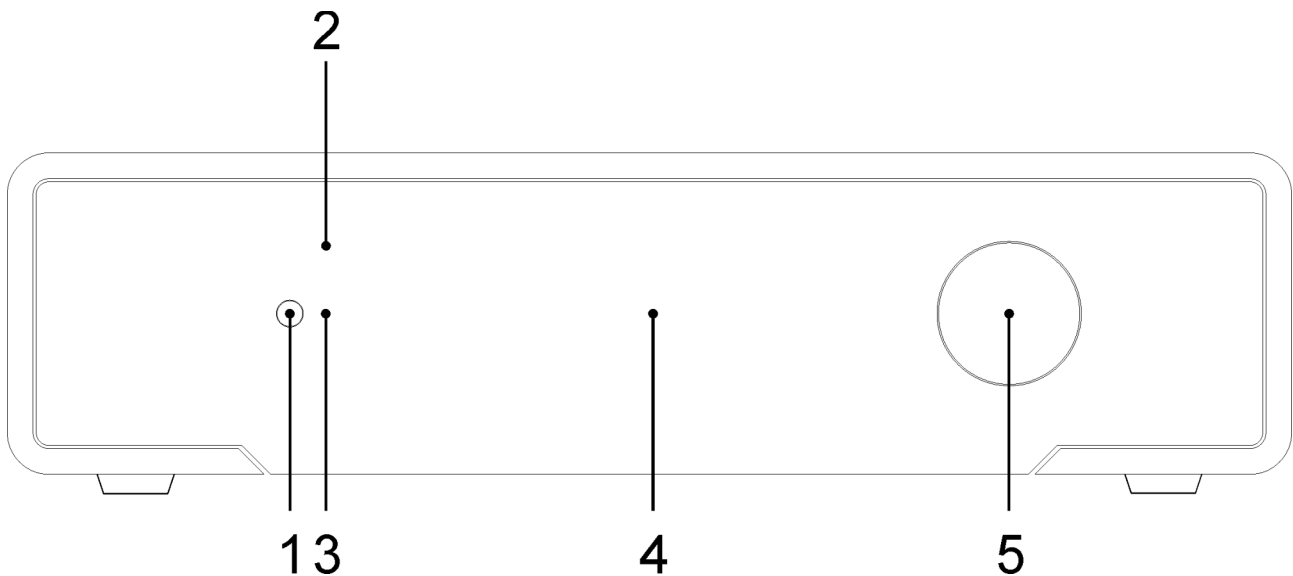
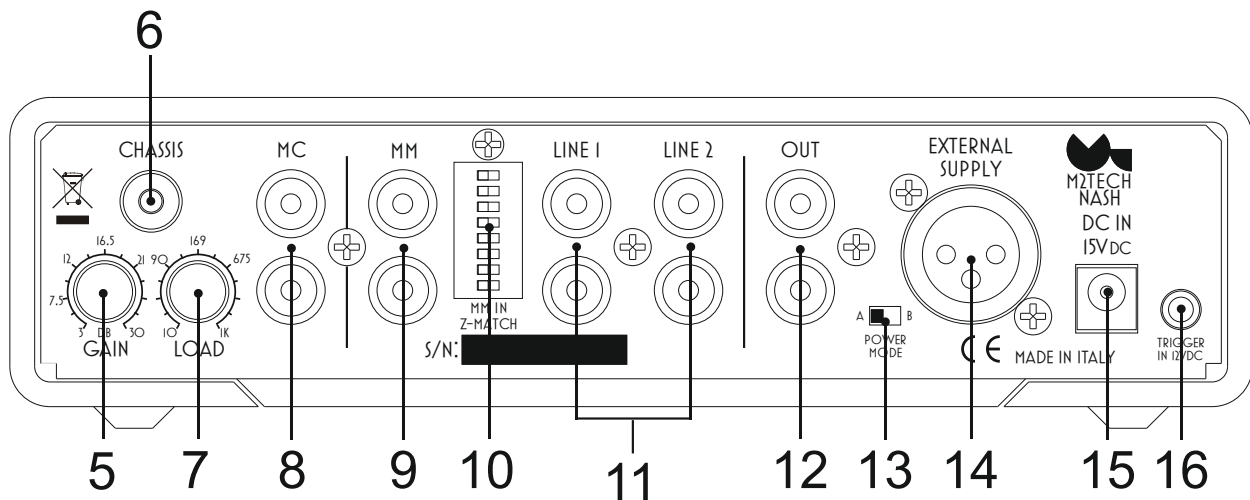

Figure 1
Figure 2
Connect the turntable, as well as other sources, to the dedicated inputs (Fig. 2, 8, 9 and 11). Please note you can connect two turntables at the same time: one fitted with an MC or other low-level cartridge, another fitted with MM or other high-level cartridge. Optionally, a second low-level cartridge can be connected to the MM input by means of an external step-up transformer or MC stage. Alternatively, if a reduced output level can be accepted and a high load resistance is not problematic for the frequency response, an MC cartridge can be directly connected to the MM input.
Connect the NASH output (Fig. 2, 12) to your preamplifier or integrated amplifier input.
If the trigger feature is to be used, connect a mono cable with 3.5mm jack to the NASH trigger input (Fig. 2, 16).
Connect the stock wall adaptor to the NASH power input (Fig. 2, 15) and to a wall outlet.
Set the power mode switch (Fig. 2, 13) according to the way the NASH should behave when power is applied.
Should the user change his/her mind and keep the current source, it is sufficient to push the button to the left of the front panel (item 1 Fig. 1) or avoid doing anything else: After a few seconds the NASH will automatically return in its “idle” status without changing the source setting.
When the MC Input is used, the gain chain of the NASH is made of three stages: the MC preamp, the MM first stage and the MM second stage. The MC preamp gain is set by the rear panel gain pot (Fig.2, 6). This gain adds to the MM stages total gain, which can be set to one of three value: 55dB, 60dB and 65dB.
The front panel LED of the NASH (Fig.1, 2) can be set to operate in three different modes, at user's convenience:
The NASH may behave in different ways when power is applied to its power sockets (Fig.2, 14 and 15), according to user needs. The behaviour depends on the power mode switch (Fig.2, 13) and this setting.
1. Disable: when power is applied the NASH enters standby. The user may activate the NASH by pushing the front panel button (Fig.1, 1), sending an “on” command by the IR remote control or sending an “on” command by the Android app;
3. Trigger in: when power is applied the NASH enters standby. The user may activate the NASH by pushing the front panel button (Fig.1, 1), sending an “on” command by the IR remote control or sending an “on” command by the smartphone app. The NASH will also activate when the trigger input (Fig.2, 16) is driven high (5VDC to 15VDC).